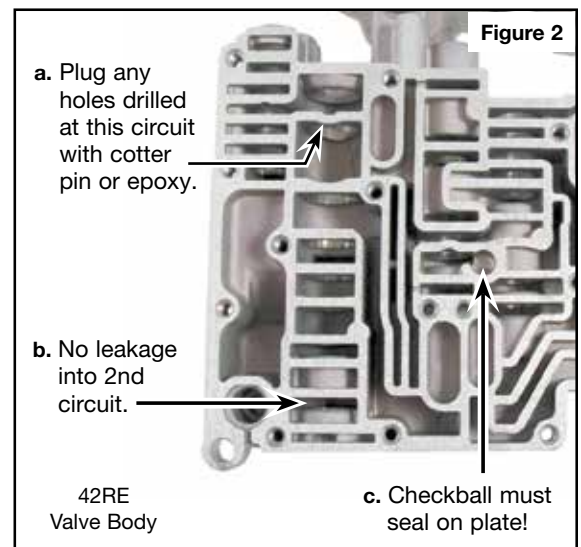

Figure 1
**NOTE:** Fits '78-later only (Figure 1)